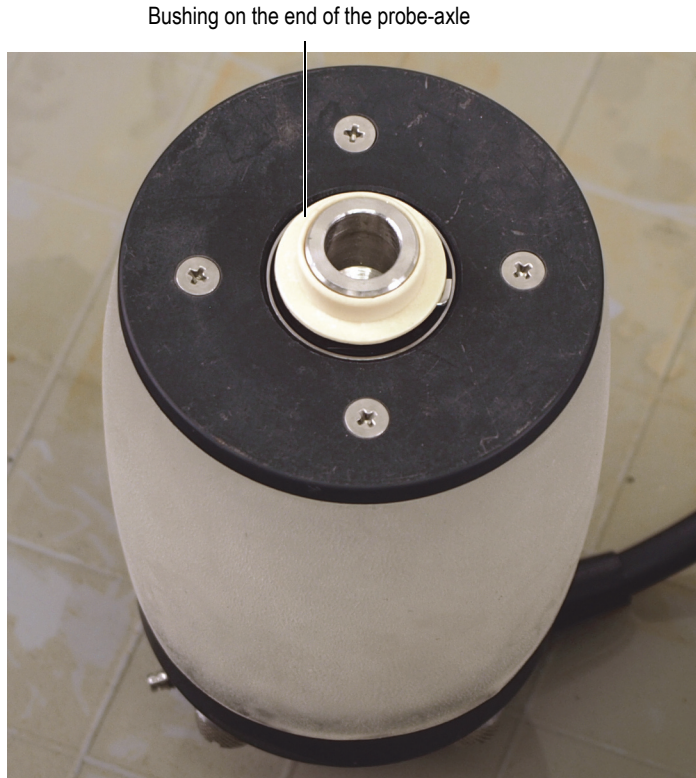

Figure 6-6 Removing the bushing from end of the probe-axe (non-XL models)
1. Remove the bushing from the end of the probe-axe on the side of the acoustic wheel that is opposite to the probe cable (Figure 6-6 on page 84) (non-XL models only).